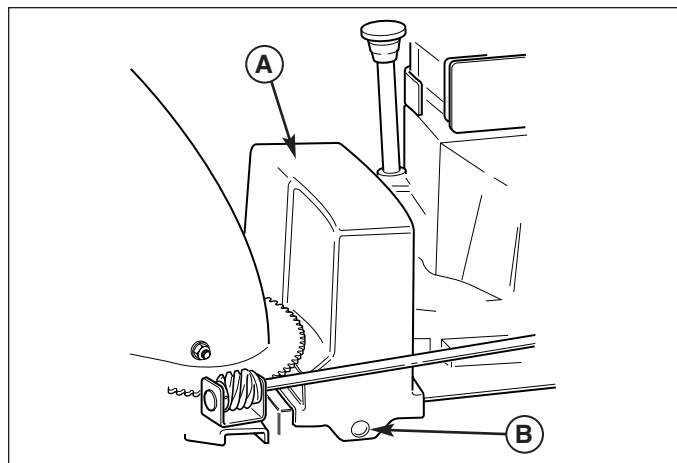

Figure 28. Belt Cover
1. Turn off the engine, remove the spark plug wire, and wait for all moving parts to stop. Rotate the spout full right. Loosen the two screws (B, Figure 28) securing the belt cover.